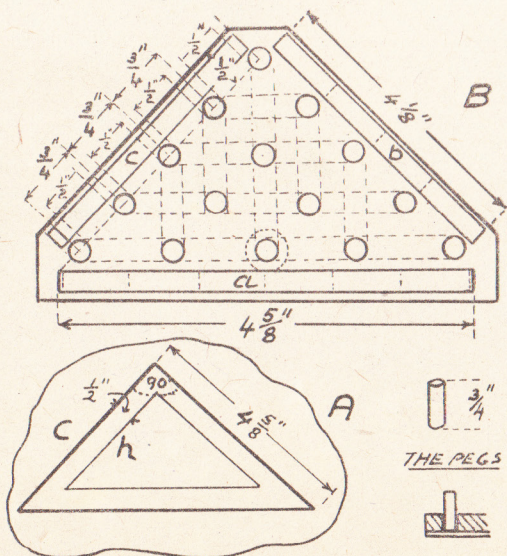
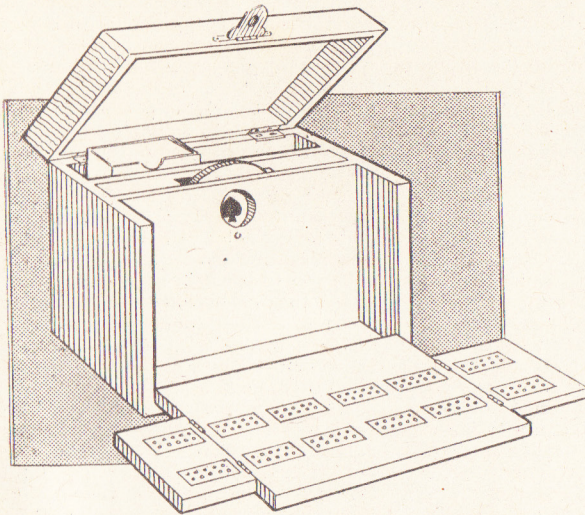

Fig. 2—Details of construction
Fig. 1—The box open and Fig. 2 (below) closed
The marking out of the board is shown in diagrams A and B, Fig. 2. Draw the triangle (C) with a right-angle at the top and sides of $4\frac{5}{8}$ ins. Scribe the line (h) $\frac{1}{2}$ in. from each of the sides and divide up, as shown in (B). At each $\frac{1}{2}$ in. space, now put a complete circle of that diameter. Join lines across between each pair of holes, also vertically downward which by their intersections give the positions of the inside circles. Mark, too, the lines at which the corners have to be cut off and draw in the three rectangles (a), (b) and (c) which are to be taken out as receptacles for the pegs.
THIS novelty games box presented to our readers this week for making up will, undoubtedly, make an instant appeal. There is space for two packs of playing cards, a novel trump indicator, and a folding full-length cribbage or peg board. The whole closes up into an ordinary box, the lid of which is held in place by a neat brass catch, as Fig. 1 and Fig. 2 will show.